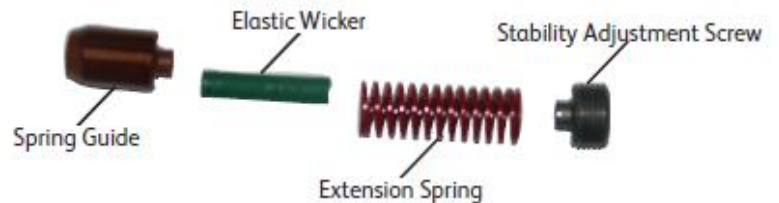

Figure 2: Stability spring kit
- c. Remove the Extension Spring (*Figure 2*) and replace it with one of the included Extension Springs that has the proper resistance.